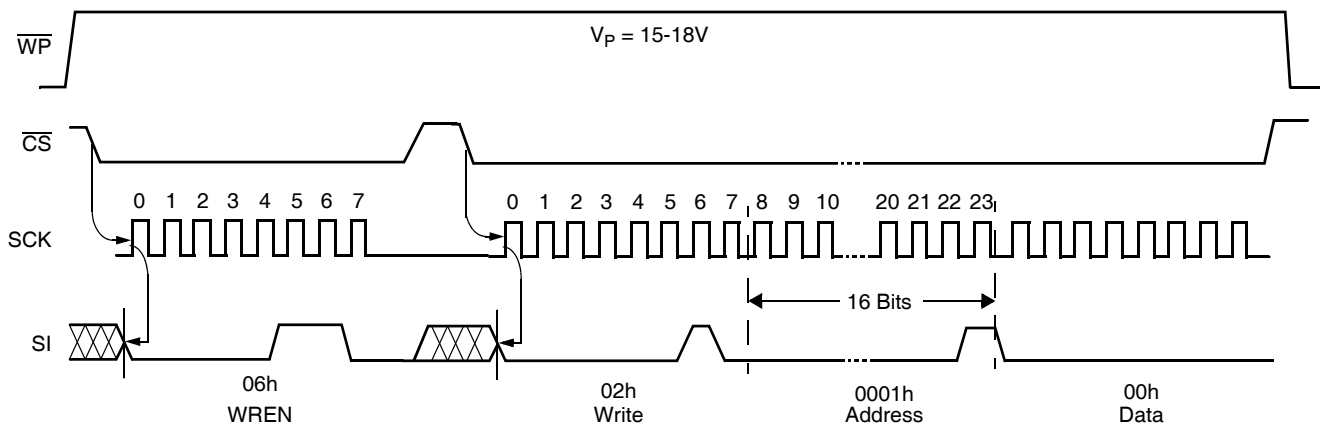

FIGURE 1. SET  $V_{\text{TRIP}}$  LEVEL SEQUENCE ( $V_{\text{CC}} = \text{DESIRED } V_{\text{TRIP}}$  VALUE)
0000 0001	<p>Write status instruction—followed by:  Block lock/WDT byte: (See Figure 1)            000WD1 WD2000 ---&gt;no block lock: 00h-00h---&gt;none of the array            000WD1 WD2001 ---&gt;block lock Q1: 0000h-00FFh---&gt;lower quadrant (Q1)            000WD1 WD2010 ---&gt;block lock Q2: 0100h-01FFh---&gt;Q2            000WD1 WD2011 ---&gt;block lock Q3: 0200h-02FFh---&gt;Q3            000WD1 WD2100 ---&gt;block lock Q4: 0300h-03FFh---&gt;upper quadrant (Q4)            000WD1 WD2101 ---&gt;block lock H1: 0000h-01FFh---&gt;lower half of the array (H1)            000WD1 WD2110 ---&gt;block lock P0: 0000h-000Fh---&gt;lower page (P0)            000WD1 WD2111 ---&gt;block lock Pn: 03F0h-03FFh---&gt;upper page (PN)</p>